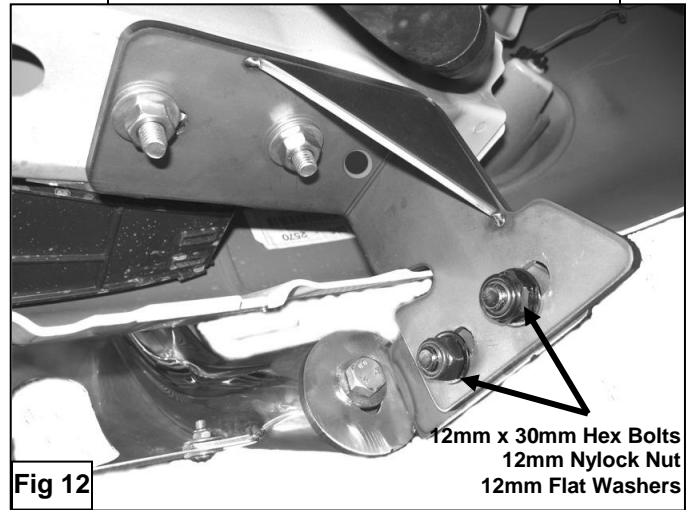

Fig 12
16. With help position Bull Bar on the outer side of Mounting Brackets. Attach Bull Bar to Mounting Brackets using (4) 12mm x 30mm Hex Head Bolts, (4) 12mm Nylock Nuts, and (8) 12mm Flat Washers (**Figure 12**). Do not tighten at this time.